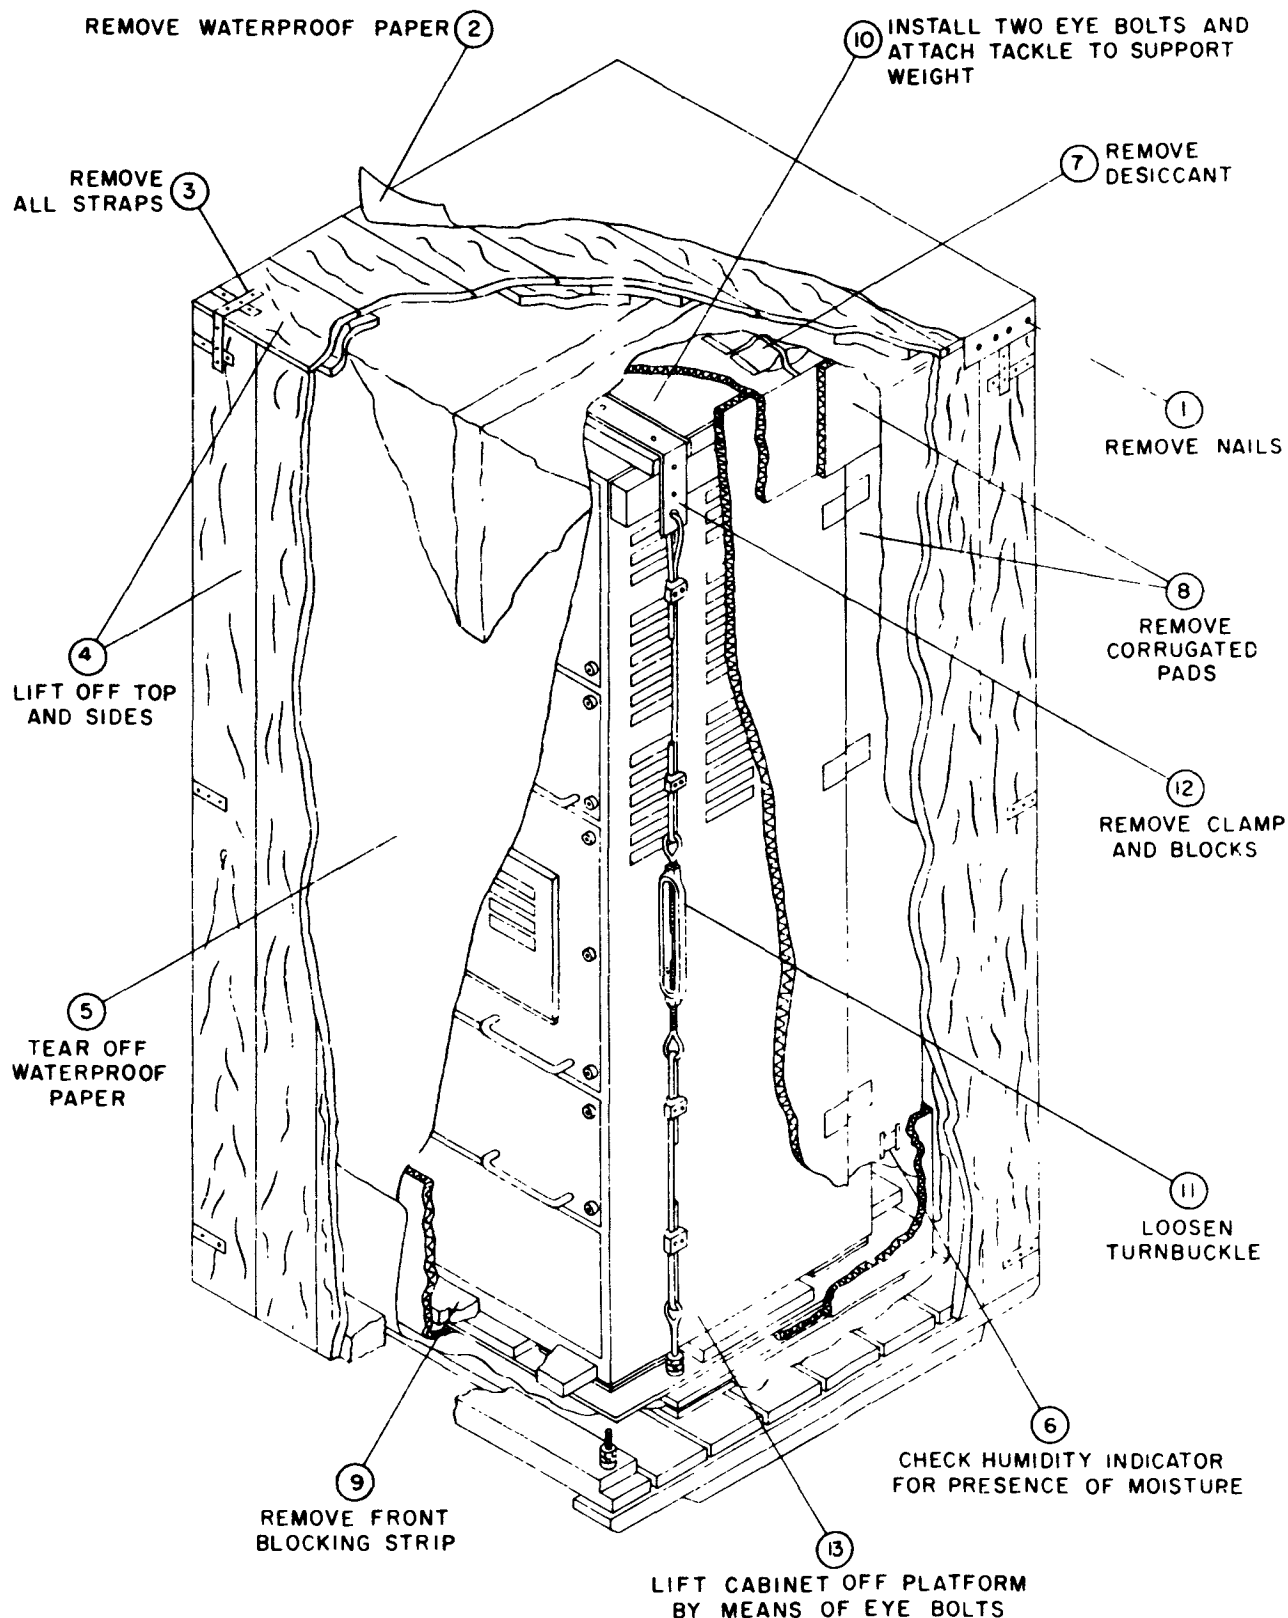

Figure 2-1. Receiver-Transmitter Group or Power Supply Assembly, Typical Unpacking Diagram
b. **TYPICAL UNPACKING PROCEDURE.**—A typical component unpacking diagram is shown in figure 2-1. Unpack the equipment in accordance with the procedure outlined in the following steps: